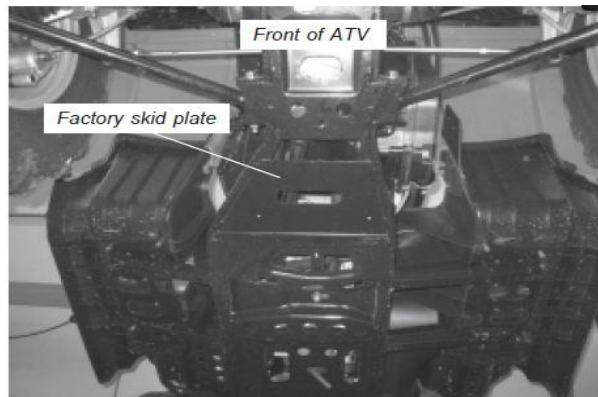
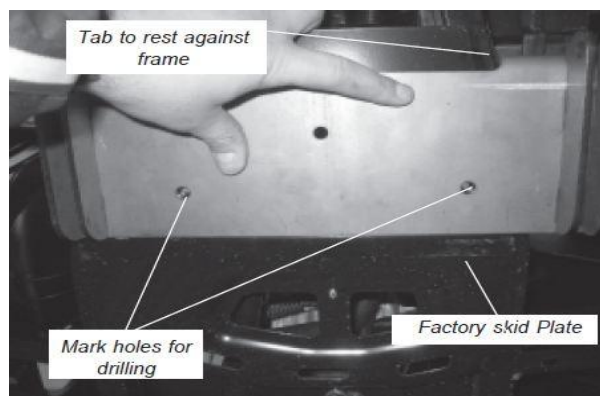

Figure 1
Figure 2
1. Locate the factory skid plate under the ATV (Figure 1).
2. Place the plow mounting bracket (A1) so that the rear of the bracket rests on the "lip" of the factory skid plate. (Figure 1 and Figure 2)
3. Next, slide the plow mounting plate (A1) to the left so that the right tab rests against the frame. Mark the holes for drilling. (Figure 2)